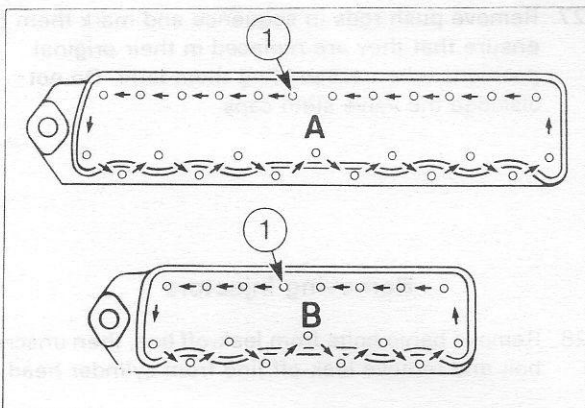

Fig. 12 - Cylinder Head Bolts Tightening Sequence
30. Loosen each cylinder head bolt a little at a time in the reverse order to the tightening sequence shown in Fig. 12, then remove all bolts.